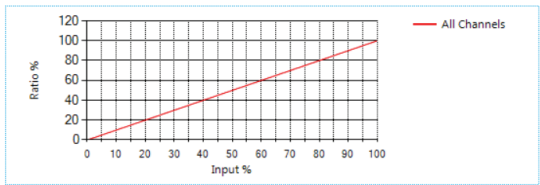

Figure 13: INT Mapping graph for all channels
*Tip: Scroll to the bottom of the window to see graphs (shown in Figures 13, 14, and 16) of the current INT mapping configuration.*